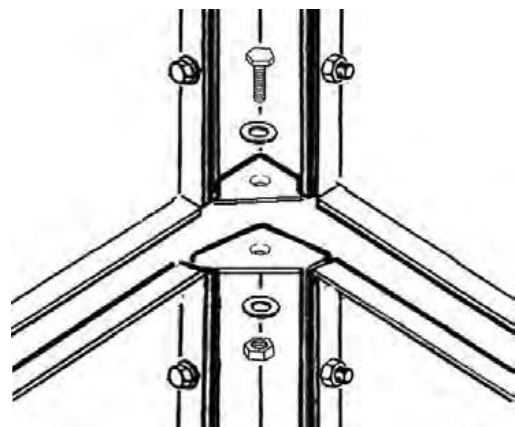

Fig. 4
- b) The machine unit to the base frame mount (Fig. 4)